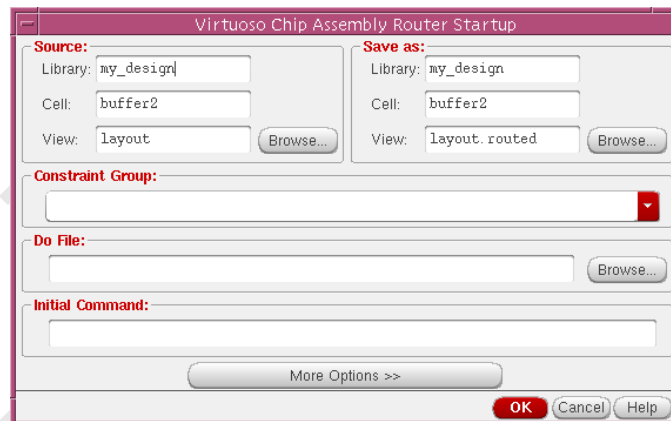

FIG. 20 Setup for VCR
2. Specify the routing view name in the popup window to initiate the VCAR (Fig 20).